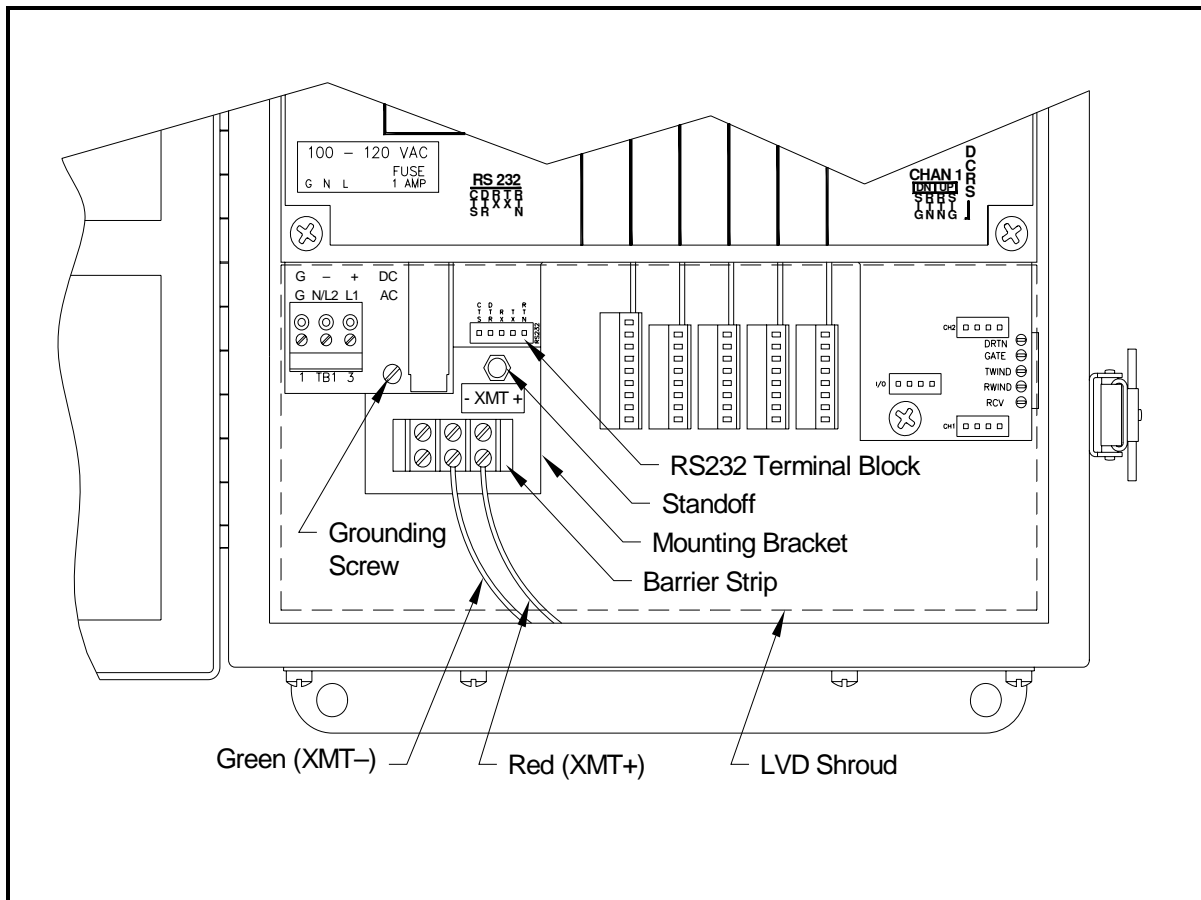

Figure 6-1: Interface Converter Mounting
A special bracket containing the serial interface converter and a three-terminal barrier strip is mounted inside the Model GM868, just below the RS232 terminal block (see Figure 6-1 below). The standard RS232 terminal block is wired to the input of the serial interface converter, and the RS-485 output of the serial interface converter is wired to the barrier strip.
Standard factory wiring of the RS485 serial interface is configured for point-to-point wiring. That is, a single Model GM868 may be wired directly to a single personal computer. To connect the RS485 serial interface, refer to Figure 6-1 on page 6-5 and complete the following steps:
3. Remove the serial interface converter *mounting bracket* by removing the standoff located below the RS232 terminal block and the grounding screw just to its left (see Figure 6-1 on page 6-5).